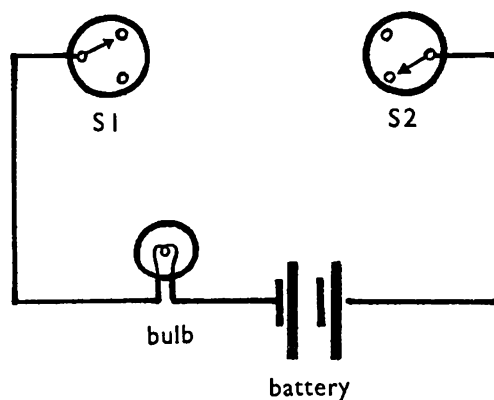

Fig. 265
The diagram in Fig. 265 shows part of a circuit often used to control one bulb from two switches each having three connections. You may have such an arrangement in your hall or staircase at home. *Can you complete this circuit and explain how it operates?* (11)